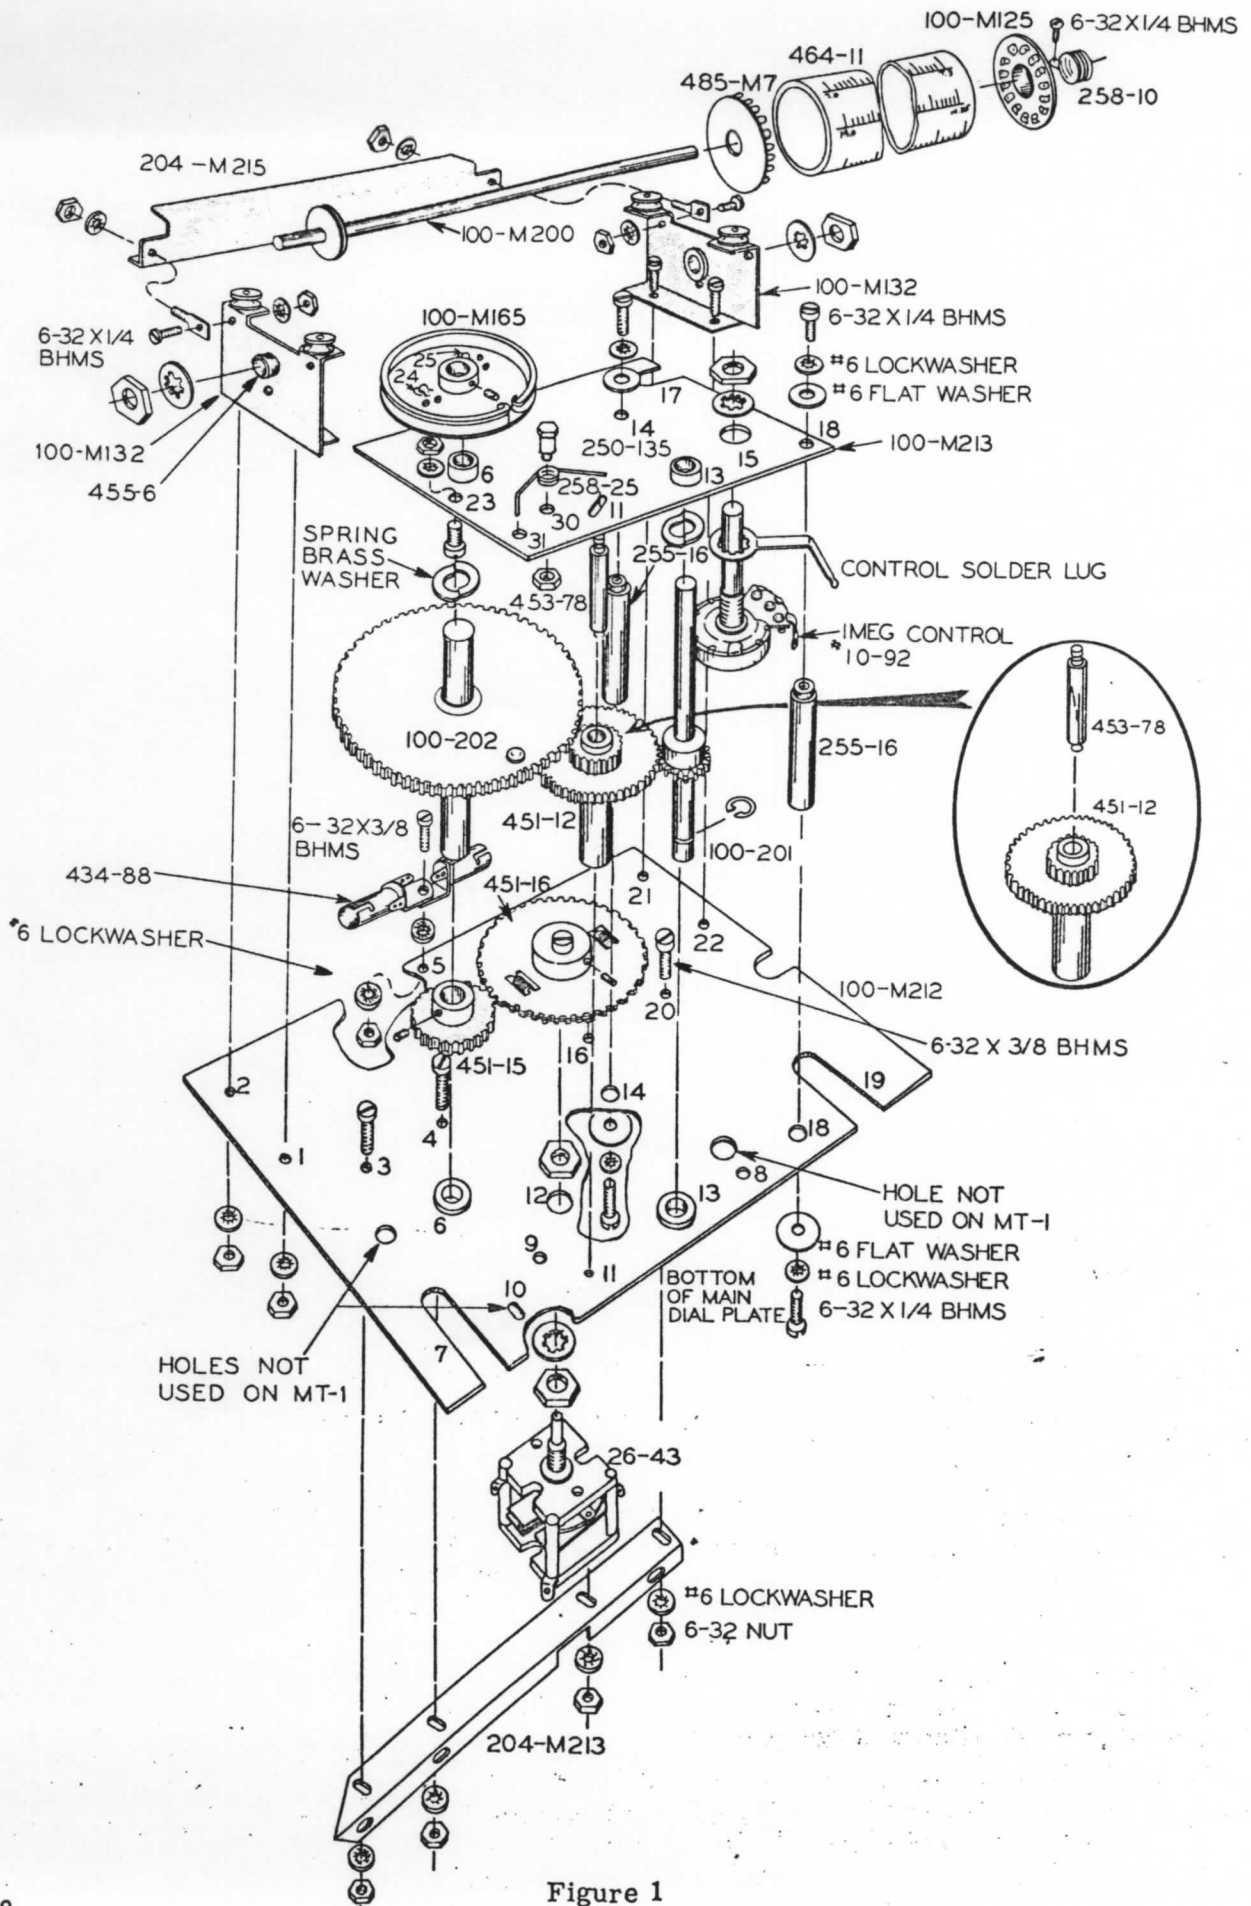

Figure 1
- () Locate and identify the main dial plate (#100-M212) with two Oilite bushings and slotted holes in the bottom portion. Orient with the flange side of the bushings toward you. See Figure 1 on page 8 for detailed illustration.
- () Locate two pilot light sockets (#434-88) and bend the solder lugs on each to run parallel with the bracket foot, but in opposite directions. Refer to Figure 1 for detailed illustration.